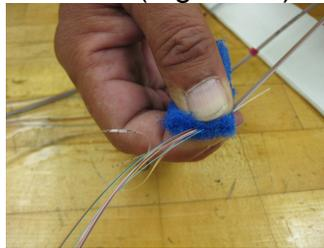

Figure 10- Removing excess matrix with blue pad.
5.3 Place the fibers between a blue pad and slide the pad down the fibers to remove any excess matrix. Sometimes the matrix may remain on the edge fibers after peeling and soaking. If this occurs the blue pad can be utilized again to remove any remaining matrix material (Figure 10).